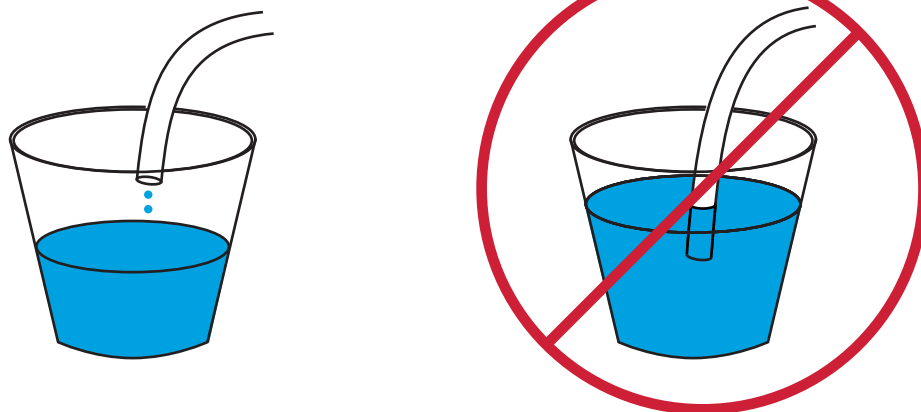

Figure 16 Drip tube correctly hung (left) and incorrectly submerged (right)
- The open end of the tubing is not submerged in the drainage container (Figure 16).